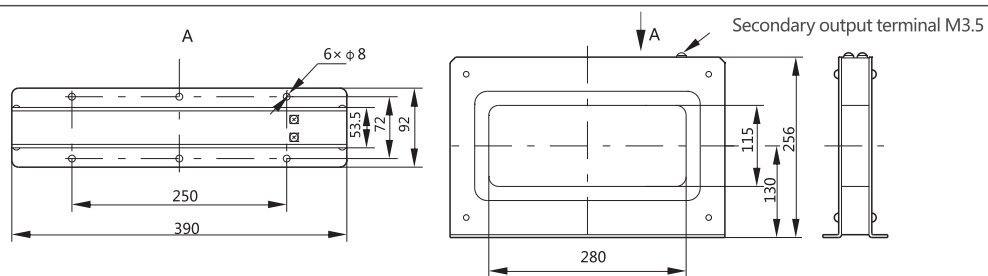

Figure 103 ZCT1: rectangular leakage transformer
12.16.3 Leakage protection detection principle shown in Figure 103